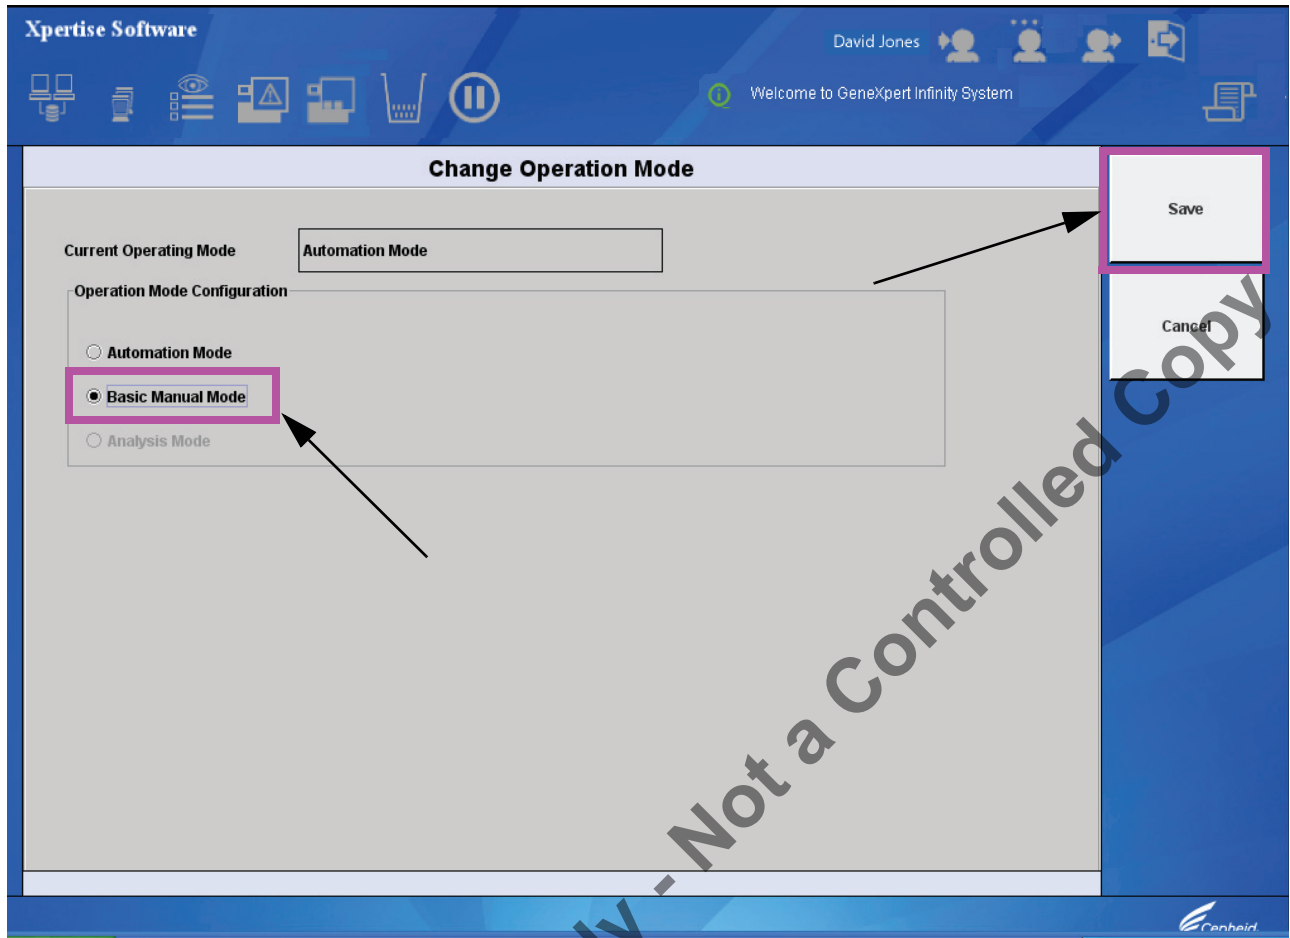

Figure 53. Change Operation Mode workspace – Selecting Basic Manual Mode
5. In the Change Operation Mode workspace, select **Basic Manual Mode** (Figure 53).